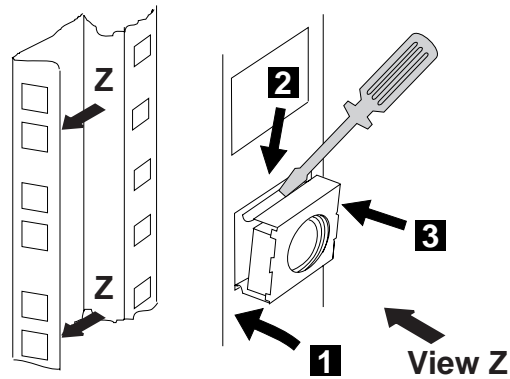

Figure 1-5. Captive Nuts Installation
- 6. **Install** two captive nuts PN 58G5766 in the rear side of the controller expansion as shown in Figure 1-5, refer also to Figure D-6 on page D-7 to determine the location of the captive nuts from the brackets position.